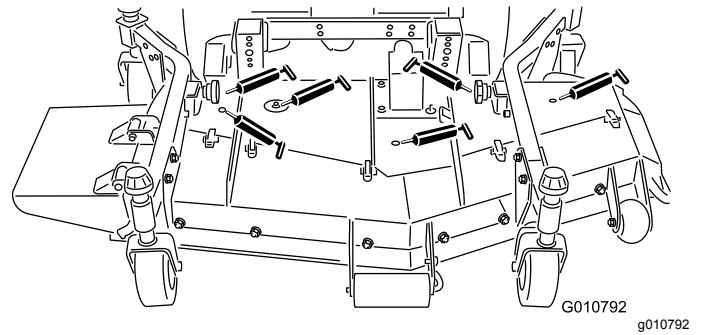

Figure 17
- Blade spindle bearings (Figure 17)
- Right and left push arm ball joints (Figure 17)